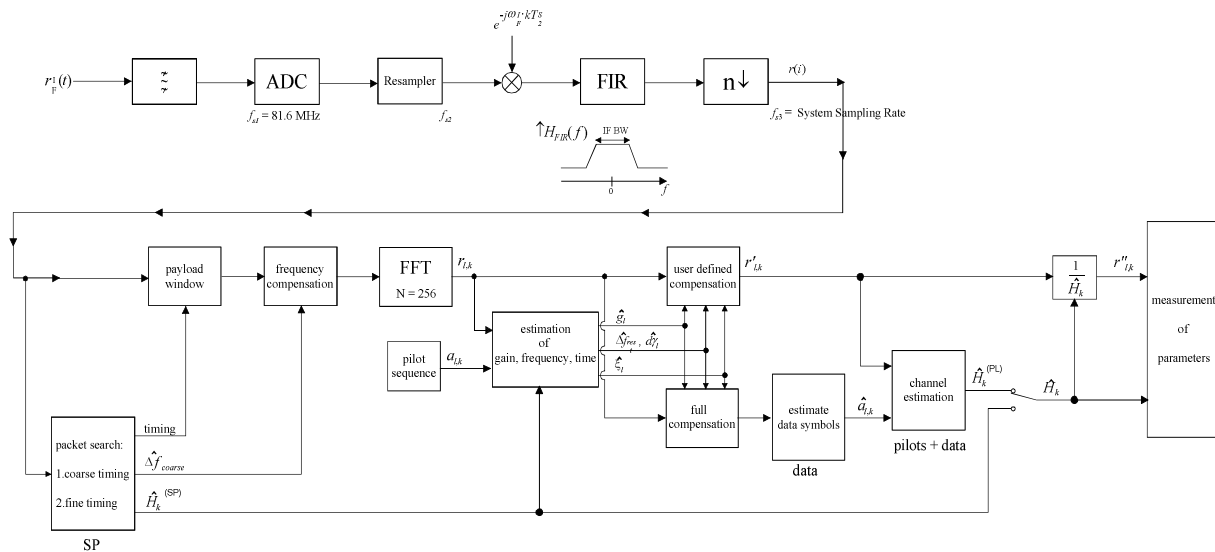

Fig. 113 Signal processing of the IEEE802.16 OFDM measurement application
A diagram of the interesting blocks is shown in Fig. 113. First the RF signal is downconverted to the IF frequency  $f_{IF} = 20.4$  MHz. The resulting IF signal  $r_{IF}(t)$  is shown on the left-hand side of the figure. After bandpass filtering, the signal is sampled by an Analog to Digital Converter (ADC) at a sampling rate of  $f_{s1} = 81.6$  MHz. This digital sequence is resampled to the new sampling frequency of  $f_{s2} = 80$  MHz which is a multiple of the Nyquist rate (20 MHz). The subsequent digital downconverter shifts the IF signal to the complex base band. In the next step the base band signal is filtered by a FIR filter. To get an idea, the rough transfer function is plotted in the figure. This filter fulfils two tasks: first it suppresses the IF image frequency, secondly it attenuates the aliasing frequency bands caused by the subsequent downsampling. After filtering, the sequence is sampled down by the factor of 4. Thus the sampling rate of the downsampled sequence  $r(i)$  is the Nyquist rate of  $f_{s3} = 20$  MHz. Up to this point the digital part is implemented in an ASIC.
In general, the coarse frequency estimate  $\hat{\Delta f}_{\text{coarse}}$  (see Fig. 113) is not error-free. Therefore the remaining frequency error  $\Delta f_{\text{rest}}$  represents the not yet compensated frequency deviation in  $r_{l,k}$ . Consequently the overall frequency deviation of the device under test (DUT) is calculated by  $\Delta f = \hat{\Delta f}_{\text{coarse}} + \Delta f_{\text{rest}}$ . Remark: The only motivation for dividing the common phase drift in equation (2) into two parts is to be able to calculate the overall frequency deviation of the DUT.